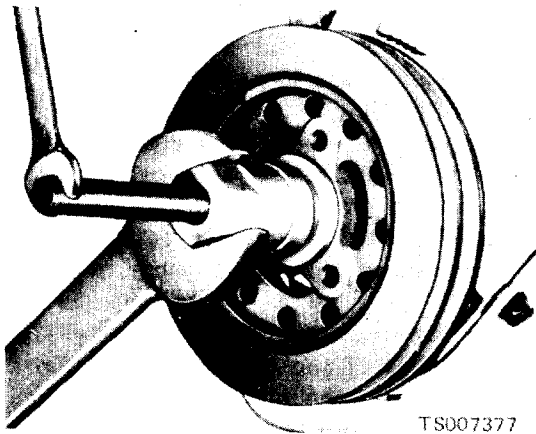

Figure 6-48. Installing Crankshaft Damper.
(4) Lubricate the crankshaft with a white lead and oil mixture to facilitate installation and removal of the damper. Lubricate the front oil seal rubbing surface on the damper inner hub and the inner surface (sealing area) of the oil seal with Lubriplate or equivalent.
(5) Align the damper keyway with the key on the crankshaft. Install the damper on the crankshaft as shown in figure 6-48.